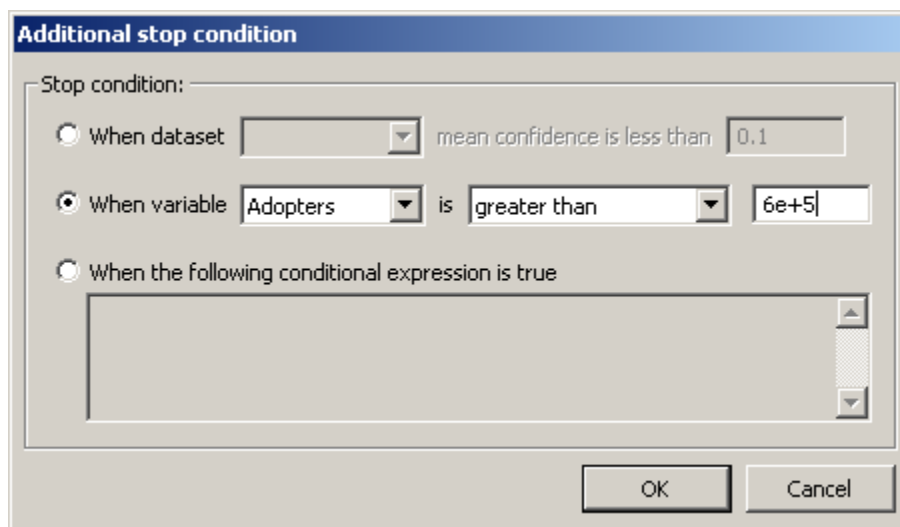

Figure 155. Additional stop condition dialog box
2. Click the *Add* button on the *Additional* page of the Properties window. The *Additional stop condition* dialog box is displayed, see Figure 155.